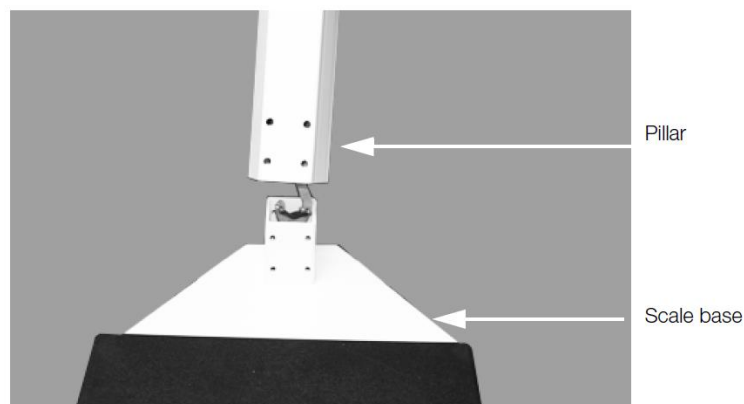

Figure 2. Attach the Pillar to the Scale Base
3. Insert the pillar into the scale base (shown in Figure 2), ensuring that the logo on the weight beam faces the scale base.